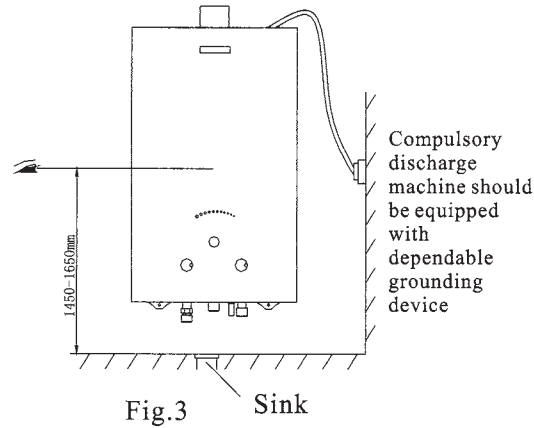

Fig.3 Sink
3. It is forbidden that the water heater is installed in bedroom, basement, cupboard or closed rooms. It should be installed in a non-living room with good ventilation. To get good ventilation, in the room where the water heater is installed, there should be a gas infall and a gas outfall with an area of no smaller than what is shown in Table 1 which is connected to the outdoors. The outfall should be installed higher than the top of the water heater and near it. The infall should be installed in a lower position. The room where the water heater is installed should be equipped with sink on the ground. The water heater is forbidden to be installed in the room with wooden ground. (refer to Fig.3).
1. Installation of the main body: based on the requirements in Fig.3 and Table 3 or the size of actual object, draw lines and drill holes on the wall with  $\Phi 8$  hole on the upper part, drive in expanding screw and drill  $\Phi 6$  hole on the bottom to drive in plastic stopper, and then hang the water heater vertically (no leaning). Fix with screws the upper part of the water heater before fix the lower part with self-tapping screws.